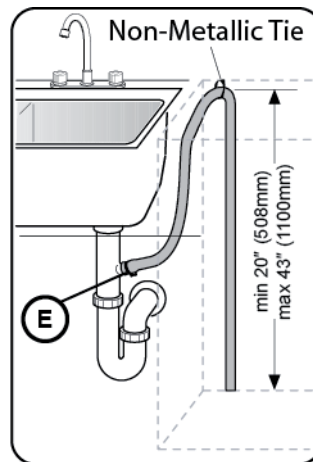

Figure 10
1. Directly under the sink dishwasher drain connection, as shown in Figure 10.